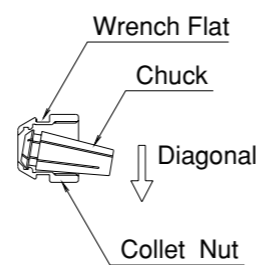

Fig.6
- Hold the chuck nut in one hand and push the chuck diagonally toward the spanner flat to remove (Fig.6)
- The new chuck can be attached by inserting the new chuck diagonally toward the spanner flat. (Fig.6)